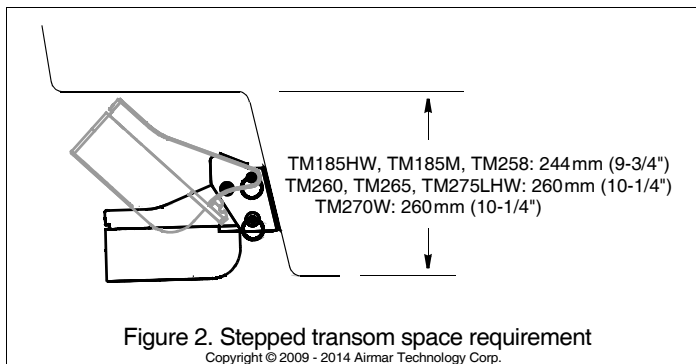

Figure 2. Stepped transom space requirement
- **Stepped transom**—Mount the transducer on the lowest step being sure there is enough space above the bracket for it to release and rotate the transducer upward (Figure 2).